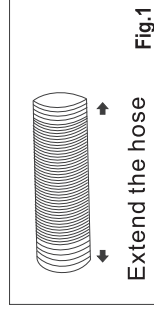

Fig.1
1. Extend either side of the hose (Fig.1)